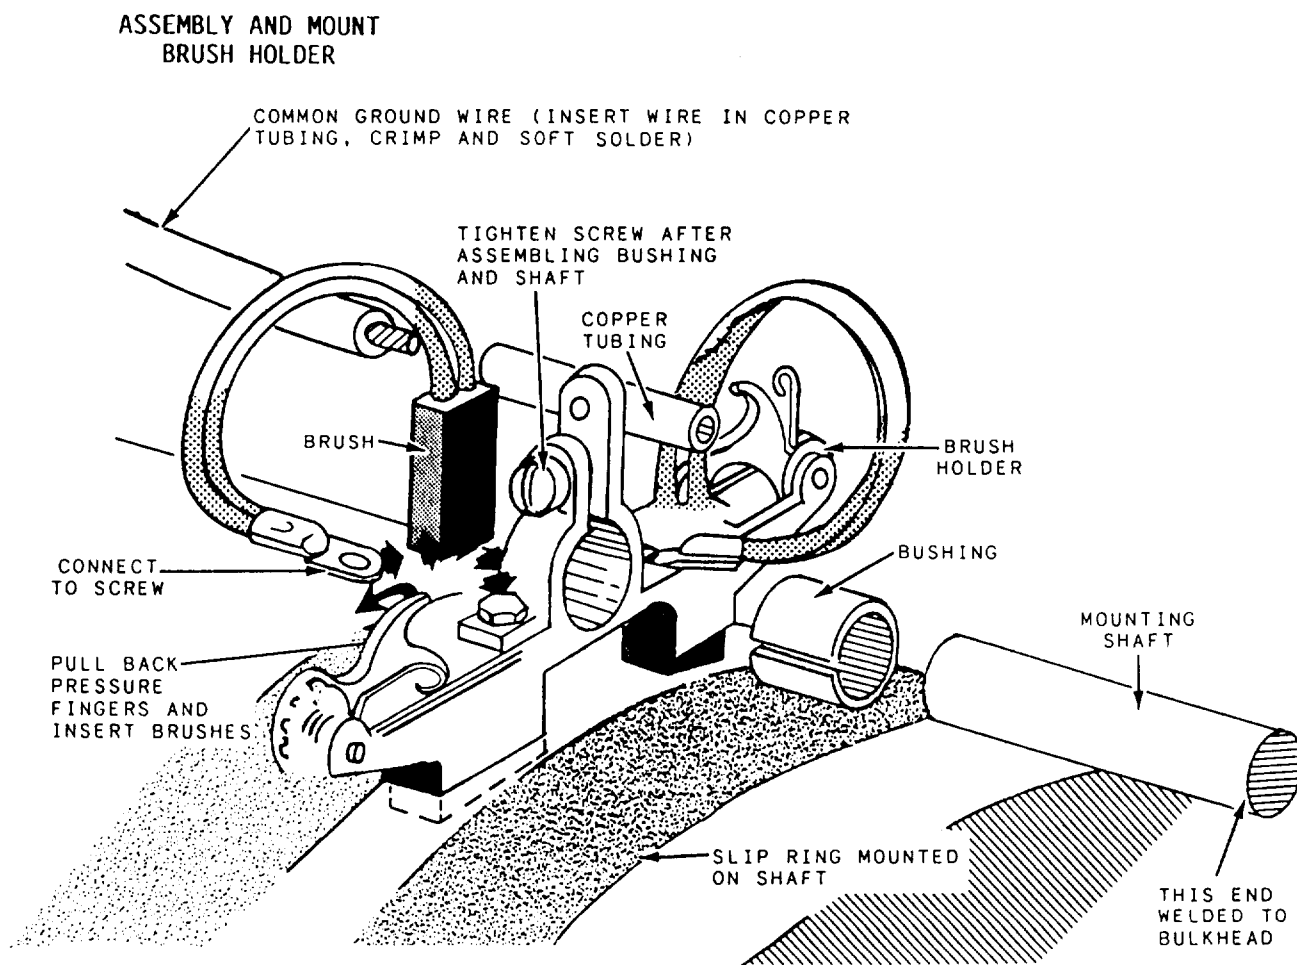

Figure 11-13.—Shaft grounding assembly.
**Shaft Grounding Assembly.**— The shaft grounding assembly (fig. 11-13) consists of a silver-alloy band, ring-fitted on the propeller shaft. It is electrically bonded to the shaft and is usually located in the shaft alley. Silver-graphite brushes ride on the hard silver surface of the bands, electrically connecting the rotating propeller shaft to the hull. This assembly is necessary to permit the anode current that flows through the water to enter the propeller blades and return to the hull. A shaft grounding assembly is provided for each shaft. Ships of earner size or larger